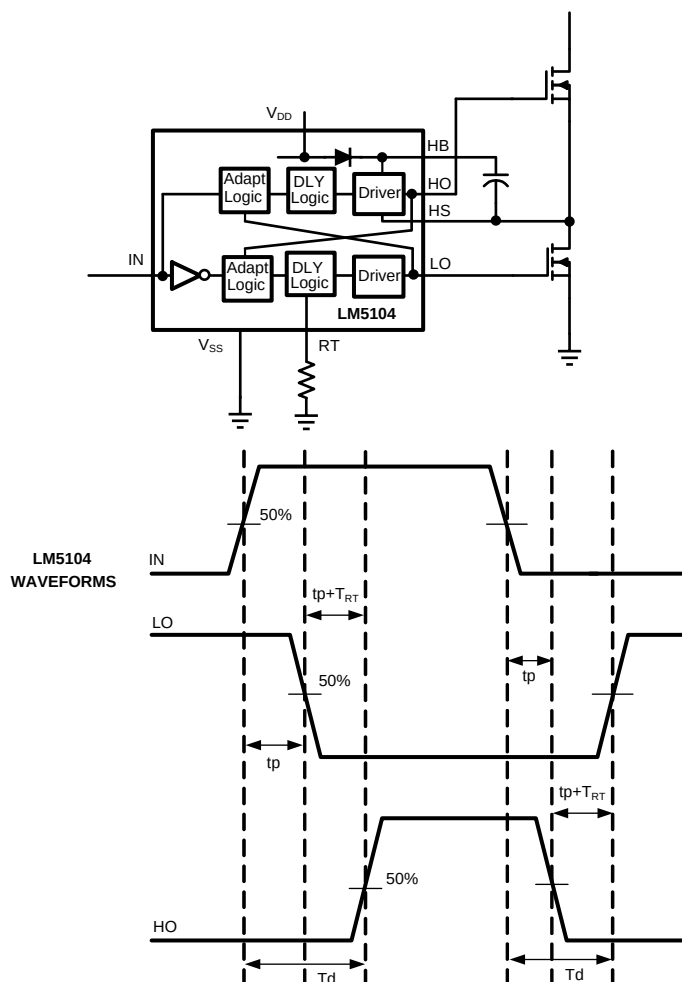

Figure 16. Application Timing Waveforms
LM5104 is a high voltage, high speed dual output driver designed to drive top and bottom MOSFET's connected in synchronous buck or half-bridge configuration, from one externally provided PWM signal. LM5104 features adaptive delay to prevent shoot-through current through top and bottom MOSFETs during switching transitions. Referring to the timing diagram Figure 16, the rising edge of the PWM input (IN) turns off the bottom MOSFET (LO) after a short propagation delay (t_P). An adaptive circuit in the LM5104 monitors the bottom gate voltage (LO) and triggers a programmable delay generator when the LO pin falls below an internally set threshold ($\approx V_{DD}/2$). The gate drive of the upper MOSFET (HO) is disabled until the deadtime expires. The upper gate is enabled after the TIMER delay ($t_P + T_{RT}$), and the upper MOSFET turns-on. The additional delay of the timer prevents lower and upper MOSFETs from conducting simultaneously, thereby preventing shoot-through.